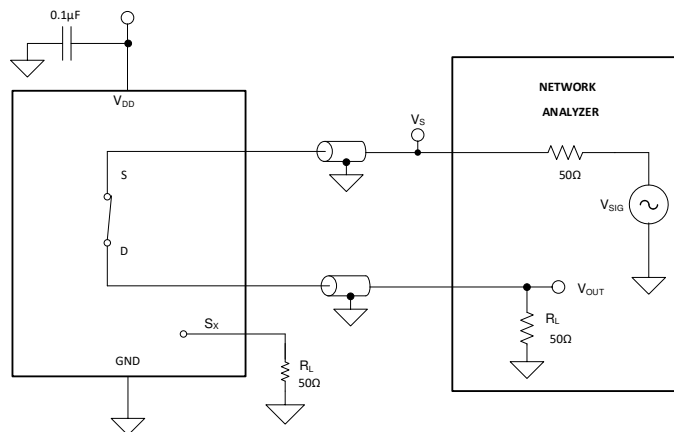

图 8-10. Bandwidth Measurement Setup
Bandwidth is defined as the range of frequencies that are attenuated by less than 3 dB when the input is applied to the source pin (S_x) of an on-channel, and the output is measured at the drain pin (D) of the device. 图 8-10 shows the setup used to measure bandwidth.